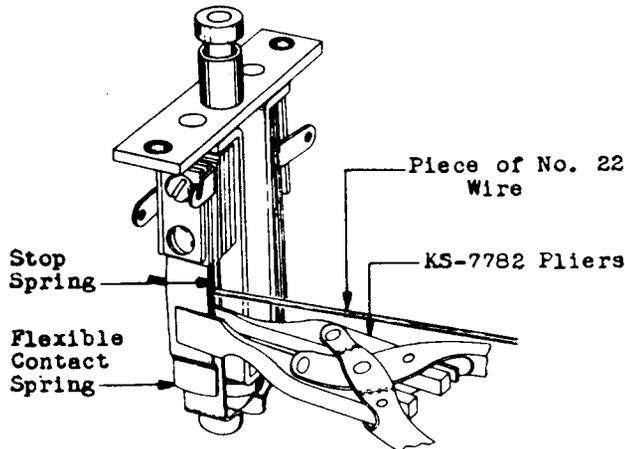

Fig. 9 - Method of Adjusting Flexible Contact Spring
(5) Failure to meet the specified clearance between springs designed never to make contact may be due to the springs being distorted. Straightening the springs will usually rectify any trouble which may exist because of springs touching each other which are designed to clear at all times.
(6) If the plunger springs fail to clear the plunger satisfactorily on keys equipped with inner contacts, examine the springs to determine whether or not they are distorted. Straighten them with the KS-7782 pliers, exercising care to maintain a satisfactory contact pressure on the inner contacts. In case difficulty is experienced in obtaining the proper clearance by adjusting the plunger springs close to the point where the springs leave the clamping plates and insulators, the straight portion of the spring nearest the offset may be given a slight bend toward or away from the plunger. Do not attempt to adjust the offset portion of the plunger springs.
(8) **Contact Follow:** If the follow requirement cannot be met by adjusting the springs close to the point where they leave the assembly clamping plates and insulators, the upper part of the spring just below the contact disc may be given a slight bend toward the plunger spring with the 485A pliers. This bend should not be enough however, to make a visible kink in the spring. It should be noted at this time that the flexible springs rest against the stop springs at least at the contact end of the springs when the plunger is in the unoperated position. Take care in making this adjustment to maintain the minimum contact separation. If a satisfactory contact follow cannot be obtained with a flexible contact spring determine whether or not it is distorted and if necessary readjust it as described in (3), (4) and (9).
(9) **Flexible Contact Spring Position:** See if the flexible contact springs rest for their entire length against the corresponding stop springs. In cases where this is not possible due to a previous distortion of the flexible contact springs adjust the springs as follows: Insert a piece of No. 22 bare tinned copper wire between the two springs close to the point where they leave the clamping plate and insulators. Then place the KS-7782 pliers over both the stop spring and the flexible contact springs close to the point where the wire was inserted as shown in Fig. 9. Compress the pliers, and then remove the wire. When the contacts are fully made the flexible contact springs should be held slightly away from their stop springs. This indicates that the contacts have a follow which insures sufficient contact pressure.
(10) **Contact Sequence:** To adjust for contact sequence increase or decrease the contact separation, contact pressure, contact follow and spring clearance as required as outlined in (2) to (9) inclusive.